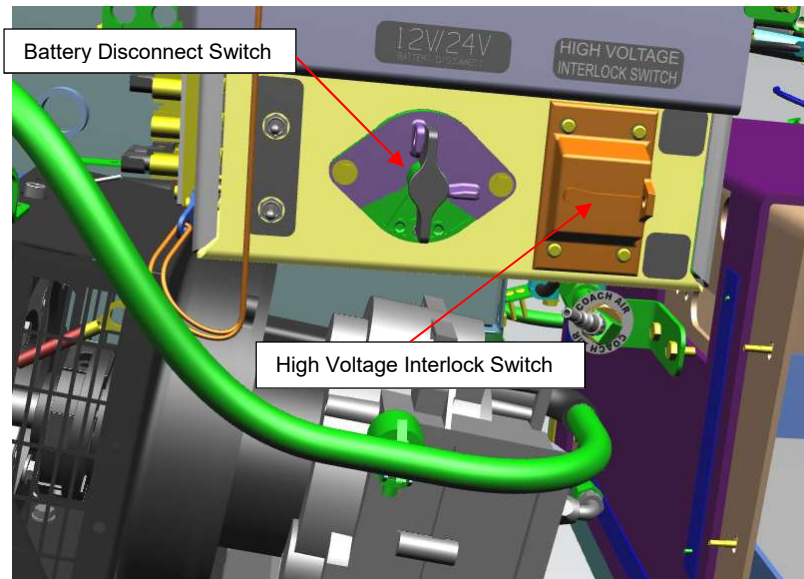

Figure 1: Electrical Disconnect Switches.
1. Open the access door at the curbside rear of the bus and locate the High Voltage Interlock Switch and Battery Disconnect switches. Figure 1.
2. Disconnect and lock out the High Voltage Interlock Switch. Figure 1.
3. Rotate the Battery Disconnect Switch to the off position. Figure 1.
14. Remove the lock and reconnect the High Voltage Interlock Switch. Figure 1.
15. Rotate the Battery Disconnect switch to the on position. Figure 1.